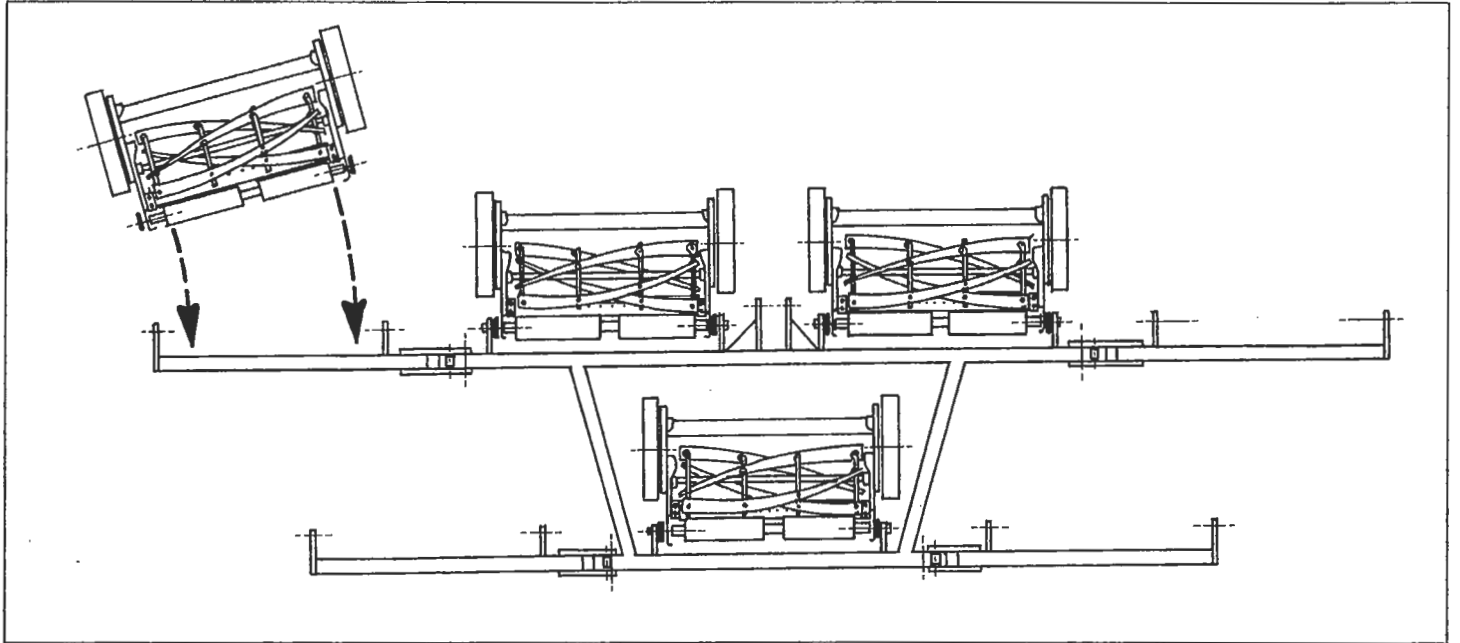

FIG. 6
- B) Position mower between the attachment brackets against the flanges of the bushing (this may be a snug fit) as shown above. **FIG. 6**